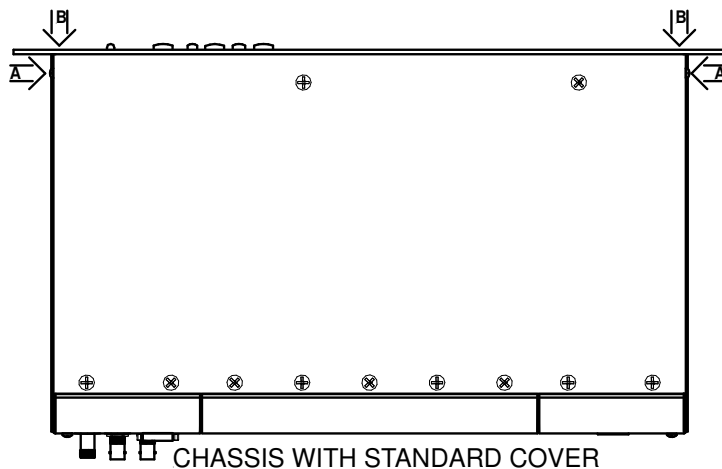

FIGURE 2 - Standard Chassis Cover Screws
1. Remove chassis from rack and refer to Figure 2 for screw locations.